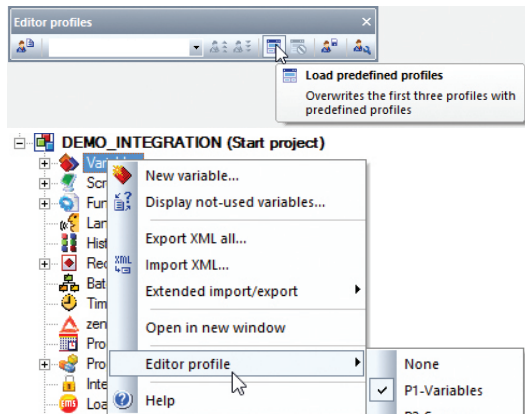

Figure 1: Assigning Editor profiles
2. Allocating the profile sets to a node in the project tree. When you click on a node, you get optimally-adjusted Editor settings with different settings for screens than for variables, etc. In the "Editor Profile" toolbar, in the "Load predefined profiles" entry, there is a set of such profiles already saved. You administer the profiles using the toolbar and assign them to the nodes of the project tree using the toolbar (see Figure 1).